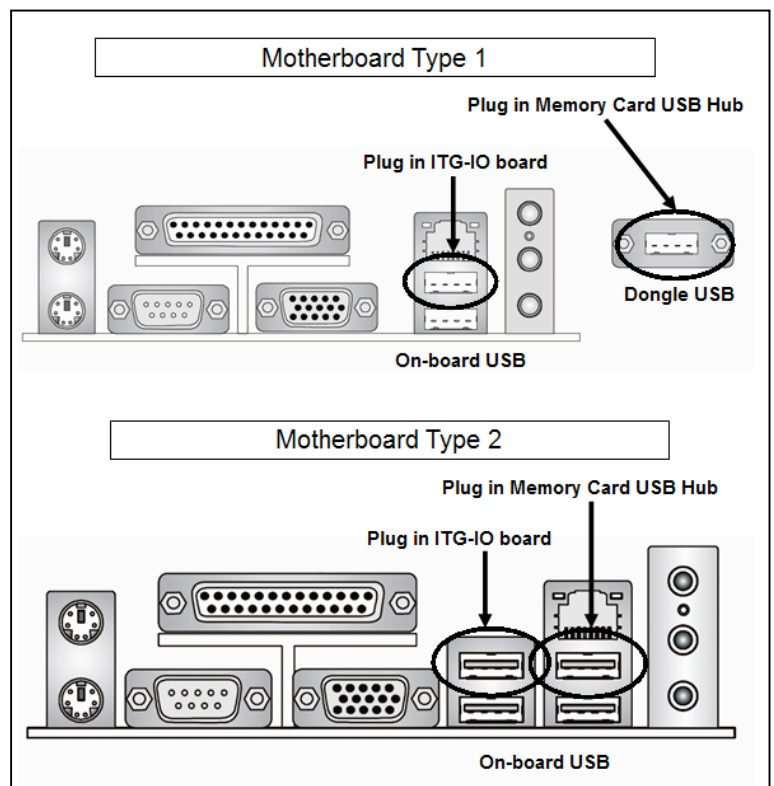

Figure 11: USB Slots on Motherboards
- See Figure 11 for the correct configuration of the USB devices. Use the location of the ports in the pictures to determine whether your motherboard is a "Type 1" or "Type 2".